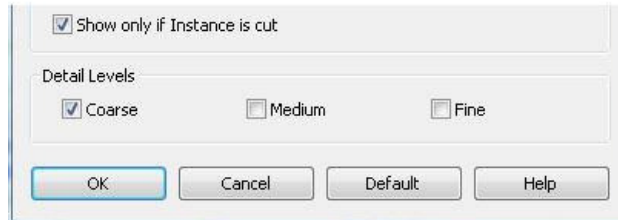

Figure 48. Setting the visibility of the Symbolic Line.
7. Select the Symbolic Line and click Visibility Settings from the ribbon. Turn off the visibility in the Medium and Fine detail levels. Place a check mark in the box for “Show only if instance is cut”. Check your settings with Figure 48 and click OK.